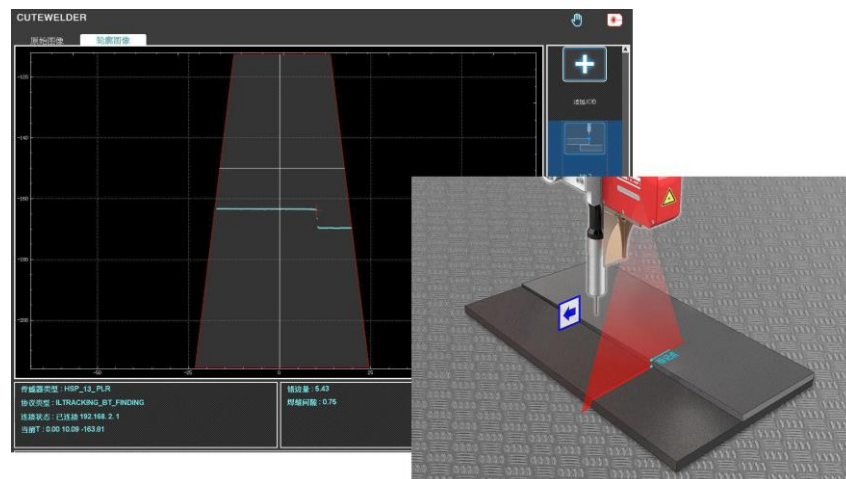

Figure 8-21 Location diagram
Step6. Move the robot to the right, so that the laser recognition point is located to the right of the feature point, that is, the laser irradiates the mark point. At the same time, the Red Cross feature point under the CUTEWELDER software outline image interface is located at the bottom right of the image window. As shown in Figure 8-21, click <Record> to record the \times Will become \checkmark .